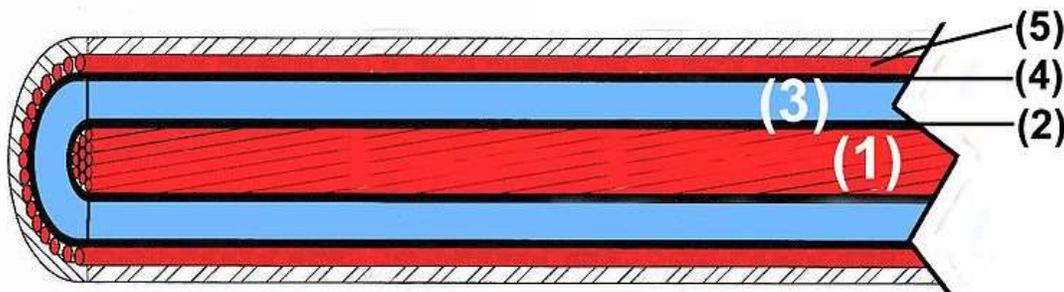

Figure 1, cross section of a high voltage cable, (1) conductor, (3) insulation.
An electrical connection to earth can be used as a reference potential for radio frequency signals for certain kinds of antennas. The part directly in contact with the earth (the "earth electrode") can be as simple as a metal rod or stake driven into the earth (Fig. 1), or a connection to buried metal water piping (though this carries the risk of the water pipe being later replaced with plastic). Because high frequency signals can flow to earth through capacitance, capacitance to ground is an important factor in effectiveness of signal grounds. Because of this a complex system of buried rods and wires can be effective. An ideal signal ground maintains zero voltage regardless of how much electric current flows into ground or out of ground. The resistance at the signal frequency of the electrode-to-earth connection determines its quality, and that quality is improved by increasing the surface area of the electrode in contact with the earth, increasing the depth to which it is driven, using several connected ground rods, increasing the moisture of the soil, improving the conductive mineral content of the soil, and increasing the land area covered by the ground system.
Modern HV cables have a simple design consisting of few parts. A conductor of copper or aluminum wires transports the current, see (1) in figure 1. Conductor sections up to 2000 mm2 may transport currents up to 2000 amperes. The individual strands are often preshaped to provide a smoother overall circumference. The insulation (3) may consist
A high voltage cable for HVDC transmission has the same construction as the AC cable shown in figure 1. The physics and the test-requirements are different. In this case the smoothness of the semiconducting layers (2) and (4) is of utmost importance. Cleanliness of the insulation remains imperative.